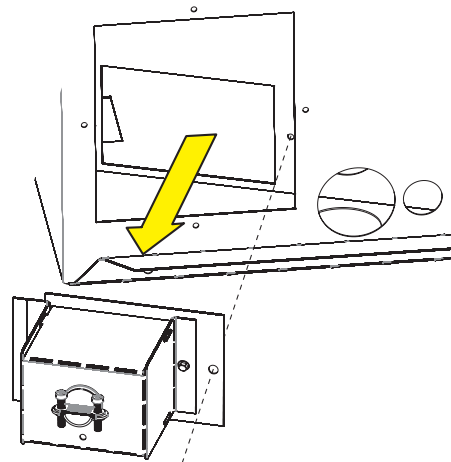

Figure 10
2. Remove the junction box assembly from inside of the fireplace. See Figure 10.